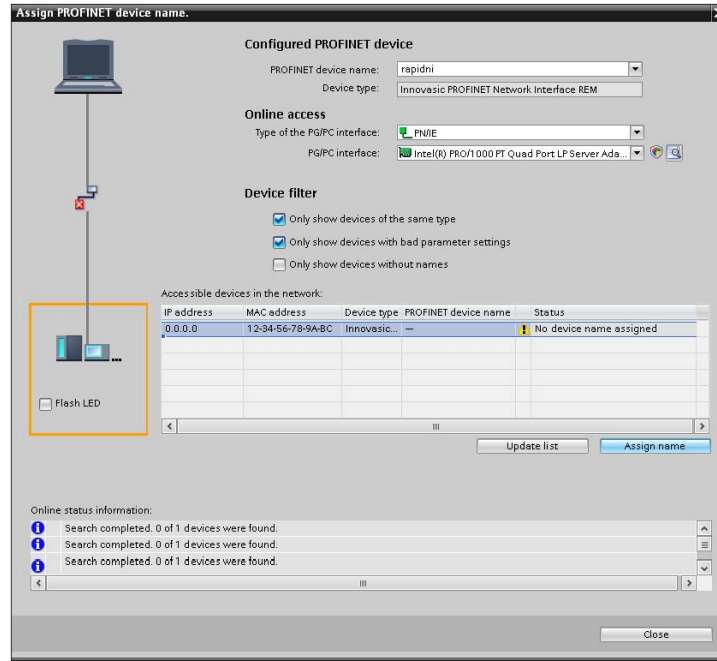

Figure 88. Main Test Project Name Assignment Window
5. Right-click the **PROFINET FIDO5000 REM** icon across from the PLC and click **Assign name** to display the **Assign PROFINET device name** window (see Figure 88).